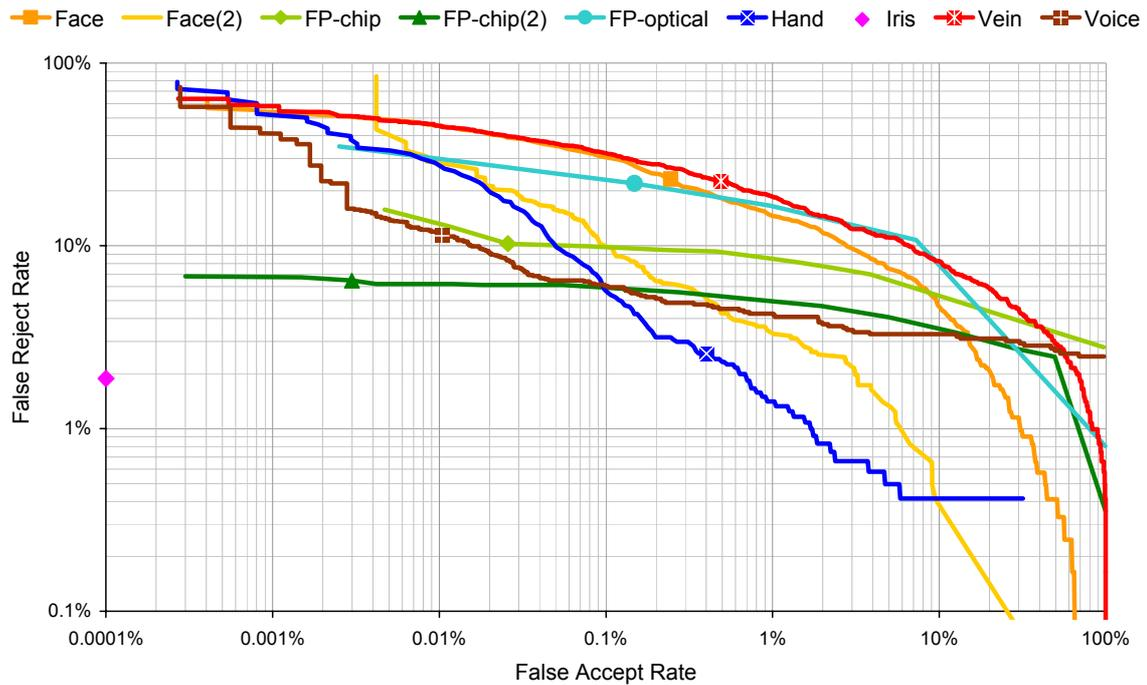

Figure 5. Detection error trade-off: FAR vs FRR
- 36. The false acceptance false rejection trade-off curve is shown in Figure 5. The curves for the face, hand geometry, iris and vein systems are unchanged, as these systems had no failures to acquire.